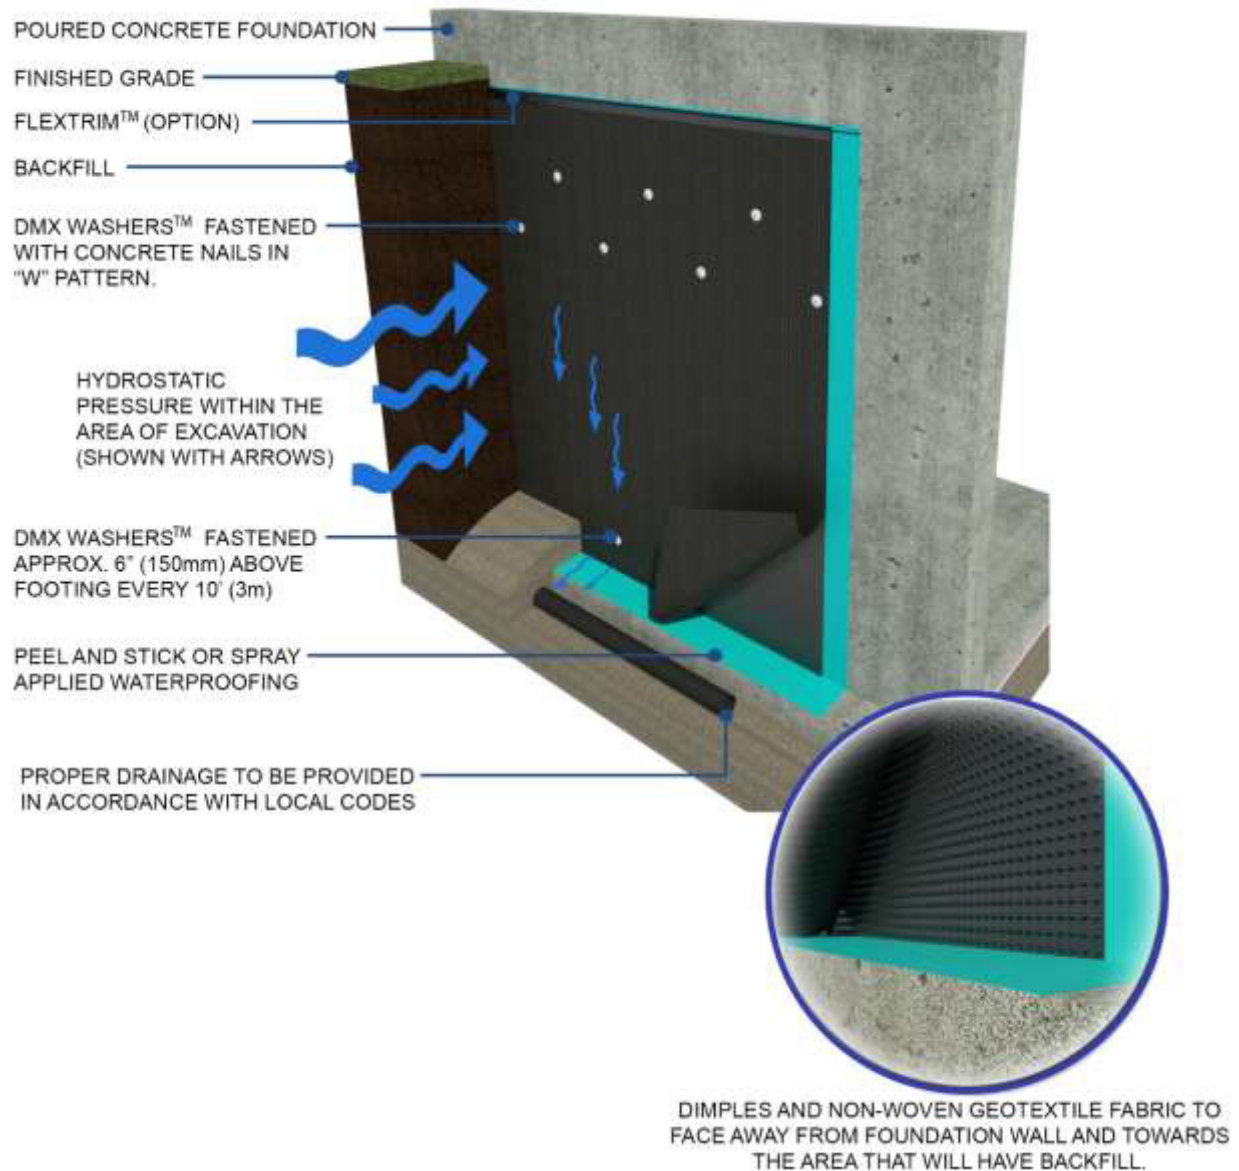

Figure 4 Traditional Foundation Application
3. Secure the membrane to the foundation wall with DMX Washers™ and concrete nails. Please note, steel washers are not recommended as they may damage the membrane. Install the DMX Washers™, in accordance with Figure 4, or you may install concrete nails and washers as requested by an engineer.